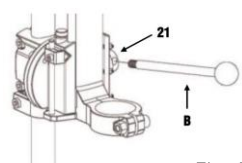

Fig. 3
4. Screw the handle (B) to the feed shaft (#21) and tighten (Fig. 3).